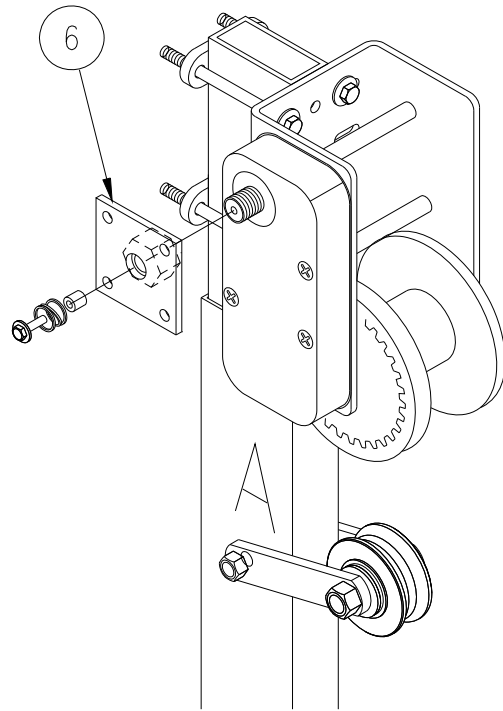

Figure 2-4.
1. Refer to Figure 2-4. Screw on the handwheel adapter (6) onto the D-L winch input shaft. Using the hardware provided with the D-L winch, install the bushing, spring and bolt to the input shaft.